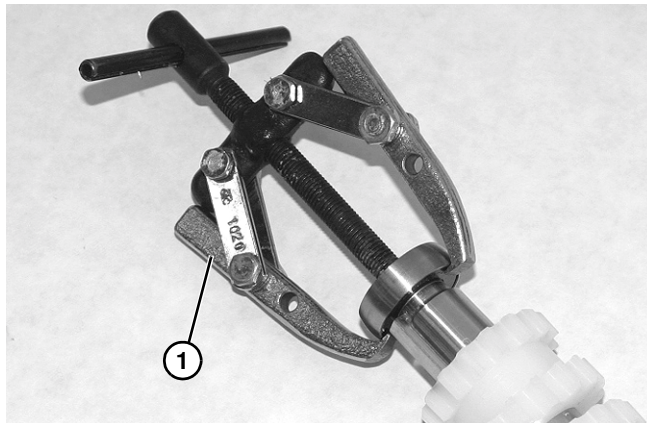

Figure 70
2. Use bearing removal tool (807-1078) (**Figure 70, item 1**) to remove bearings from drive pulley.